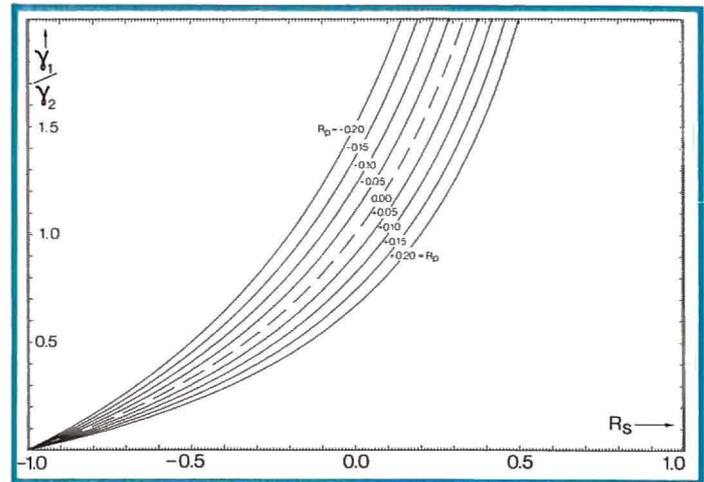
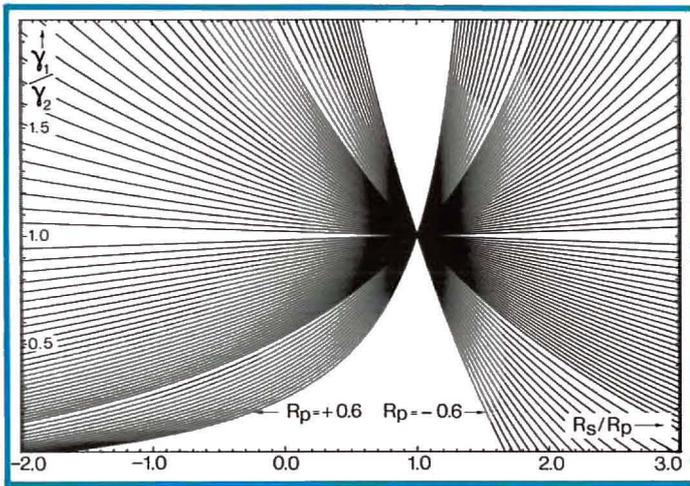

Fig. 2
Fig. 3
The reflection coefficients R_p and R_s of compressional and shear waves and consequently also the amplitudes occurring at vertical (or near vertical) incidence of the waves are unmistakably related to one another via the quotient γ_1/γ_2 . The relationship given under (3) is shown in figure 2.
Figure 3 shows the quotient R_s/R_p as a function of the γ_1/γ_2 -quotient for a large number of discrete R_p -values. This figure is also based on equation (3). The set of curves shows (as that discussed in figure 2) that the case $R_s = R_p$ should be regarded as an exception and not as a rule. It is therefore not surprising when reflections from compressional-wave and shear-wave recordings exhibit completely different ampli-